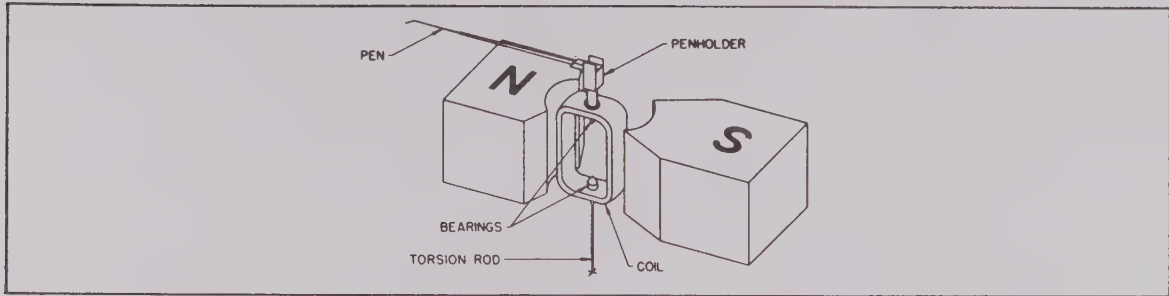

Fig. 10. Simplified Drawing of Penmotor
The penmotor, Figure 10, consists of a coil supported by sapphire jeweled bearings and mounted in the magnetic field of an Alnico V structure. A signal current passing through the coil causes, by motor action, a deflection of the coil about its axis; the deflection in turn causes the movement of the writing pen which is affixed to the coil.
4. While keeping the instrument blocked up, loosen very slightly, the PENMOTOR POSITIONING SCREWS of the particular penmotor to be adjusted. Fig. 10. Usually 1/4 of a full turn is sufficient.